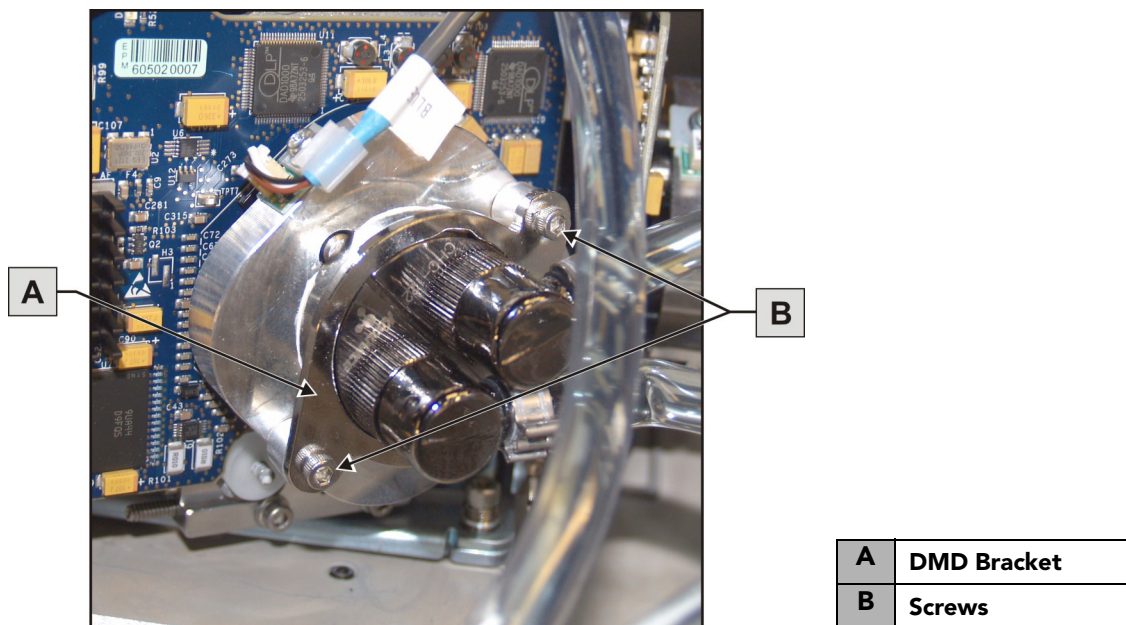

Figure 5-78 Remove Bracket
5. Remove the two screws and the bracket from each DMD (**Figure 5-78**).